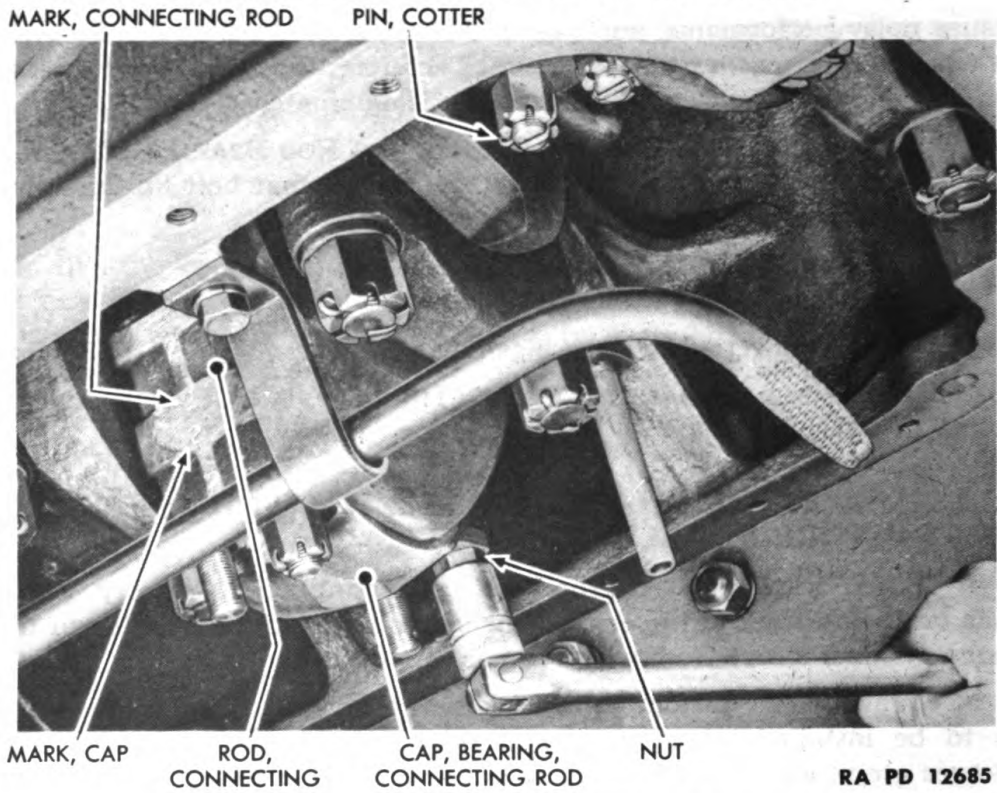

Figure 115—Connecting Rod Bearing Cap Removal
- (1) REMOVE CRANKCASE GUARD. See paragraph 31.
- (2) REMOVE CRANKCASE OIL PAN. See paragraph 98.
- (3) REMOVE CONNECTING ROD BEARING CAP (fig. 115).
- (2) INSTALL LOWER HALF OF CONNECTING ROD BEARING (fig. 115).